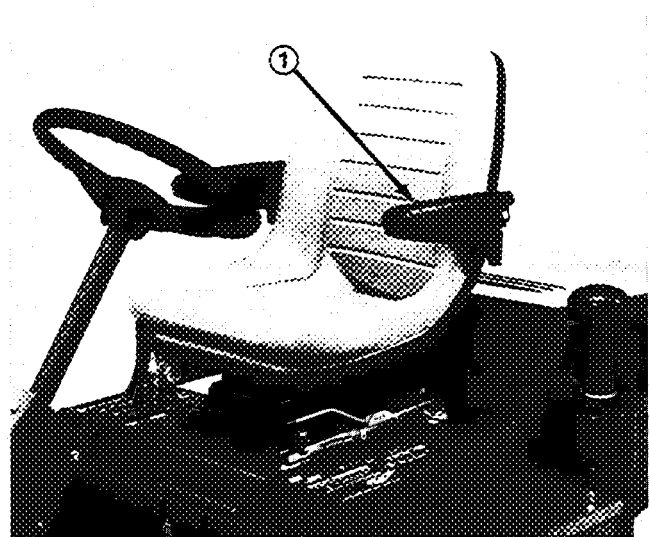

Figure 5
3. Mount seat support over four threaded studs at the bottom of seat suspension assembly and secure in place with lockwashers and nuts (Fig. 5).
5. Install arm rests to sides of seat with capscrews supplied with kit (Fig.5).